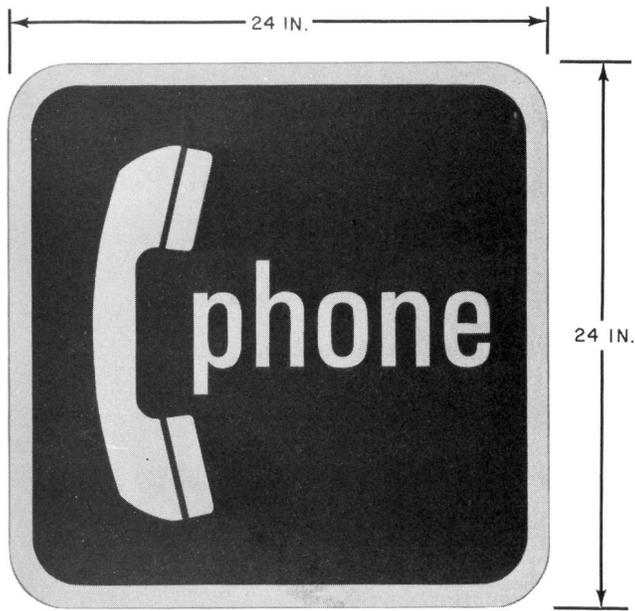

Fig. 1—KS-20065, List 6 Sign
- (a) KS-20065, List 6 (Fig. 1)